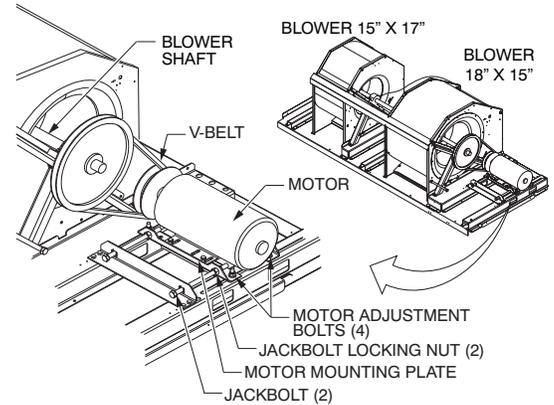

Fig. 4 – Belt Drive Motor Mounting
The supply fan system consists of two forward-curved centrifugal blower wheels mounted on a solid blower shaft that is supported by two greasable pillow block concentric bearings. A fixed-pitch driven fan pulley is attached to the fan shaft and an adjustable-pitch driver pulley is mounted on the motor. The pulleys are connected using a V-belt. (See Fig. 4.)
Use the following steps to adjust the V-belt tension. See Fig. 4.
2. Loosen (turn counterclockwise) the motor mounting plate front bolts and rear bolts. See Fig. 4.